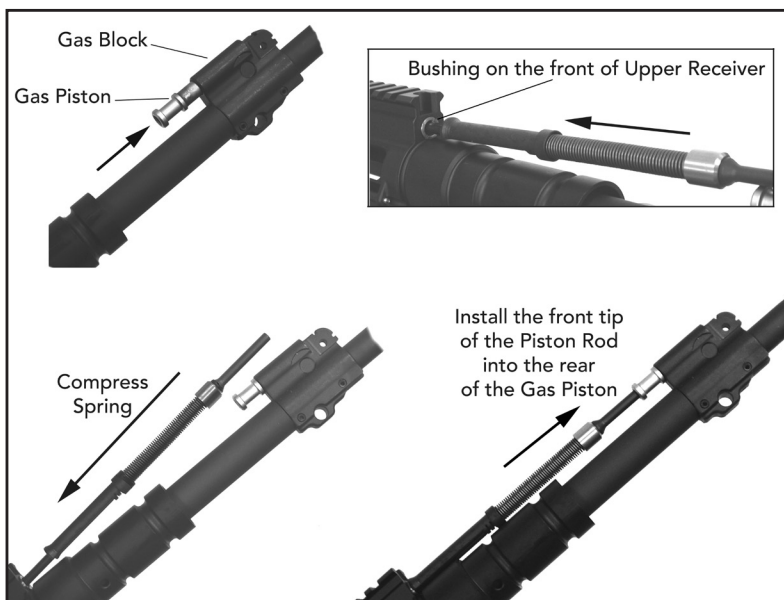

Fig. 56 – Reinstalling the Gas Piston and the Piston Rod
a. Install the gas piston into the back of the gas block. The piston rings need not be staggered prior to installation (Fig. 56).